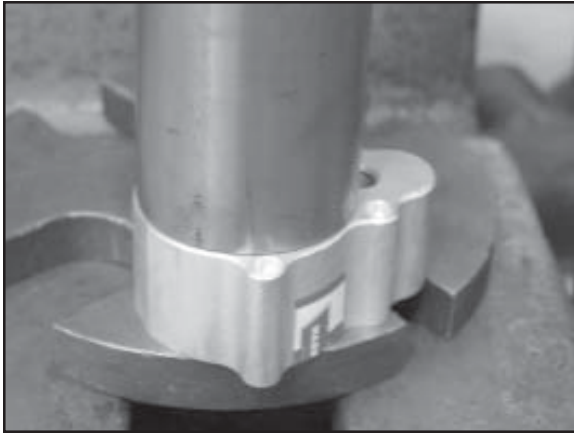

Figure 10
1. Using a socket with the approximate outside diameter as the outside diameter of the seal, CAREFULLY press the new seals into each housing, **Figure 10**.